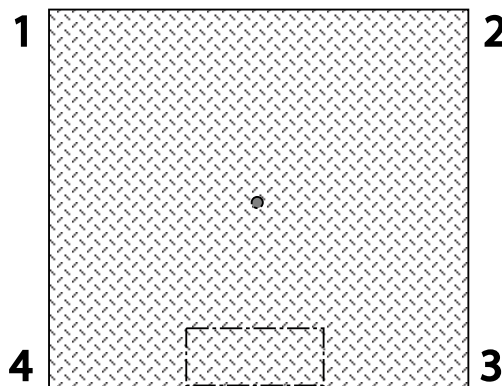

Figure 4-3. Corner Numbering - Top View
1. Remove the junction box cover and identify the correct load cell terminal corresponding to each corner (labeled CELL 1, CELL 2, CELL 3 and CELL 4). See Figure 4-3 on page 17 for scale deck corner numbering.
The four load cells are each wired to their respective terminals in the junction box according to the corner numbering system shown in Figure 4-3, and the coloring code in Table 4-2.